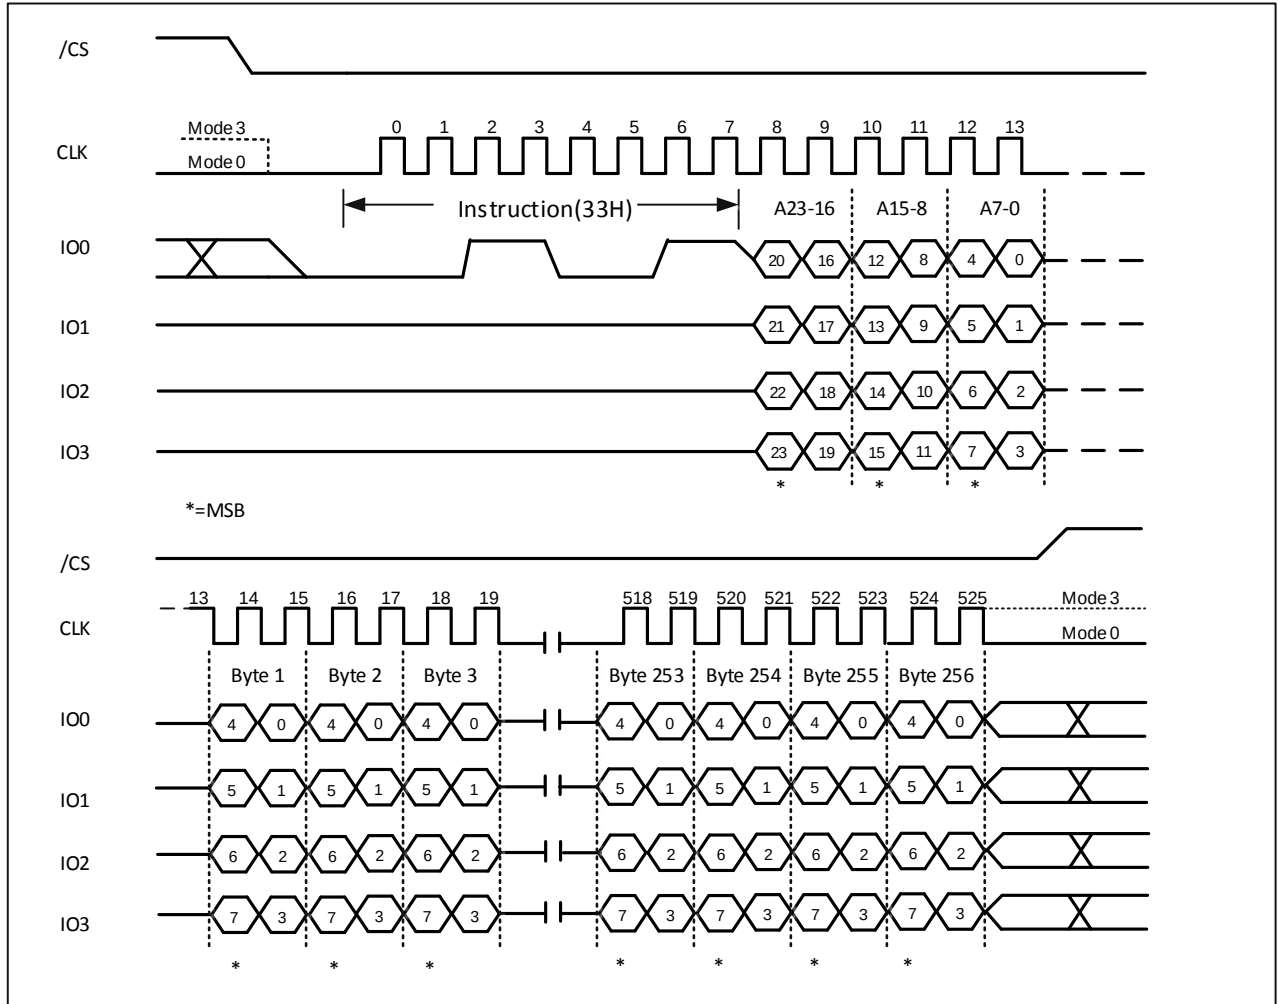

Figure 32. Quad Page Program Instruction (SPI Mode only)
The Quad Page Program (33h) instruction is similar to the Quad Input Page Program (32h) instruction except that address and data bits are both input and output through four pins IO₀, IO₁, IO₂ and IO₃. The Quad Page Program can improve performance for PROM Programmer and applications that have slow clock speeds <5MHz. Systems with faster clock speed will not realize much benefit for the Quad Page Program instruction since the inherent page program time is much greater than the time it takes to clock-in the data. To use Quad Page Program the Quad Enable (QE) bit in Status Register-2 must be set to 1. The Quad Page Program instruction sequence is shown in Figure 32.